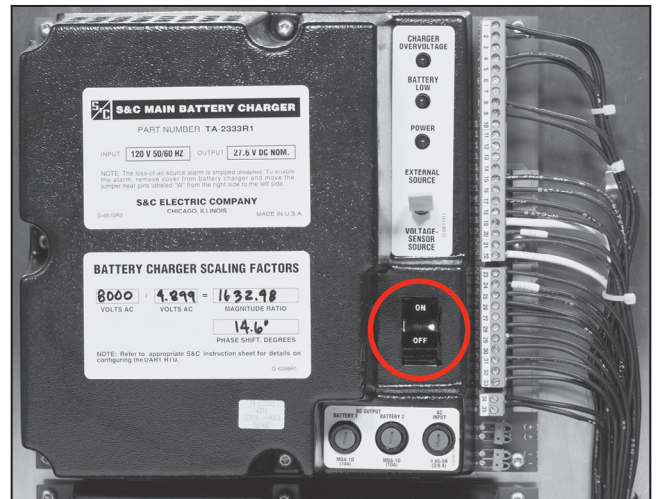

Figure 2. The battery charger POWER switch.
STEP 1. Place the POWER switch on the battery charger in the **Off** position. See Figure 2.